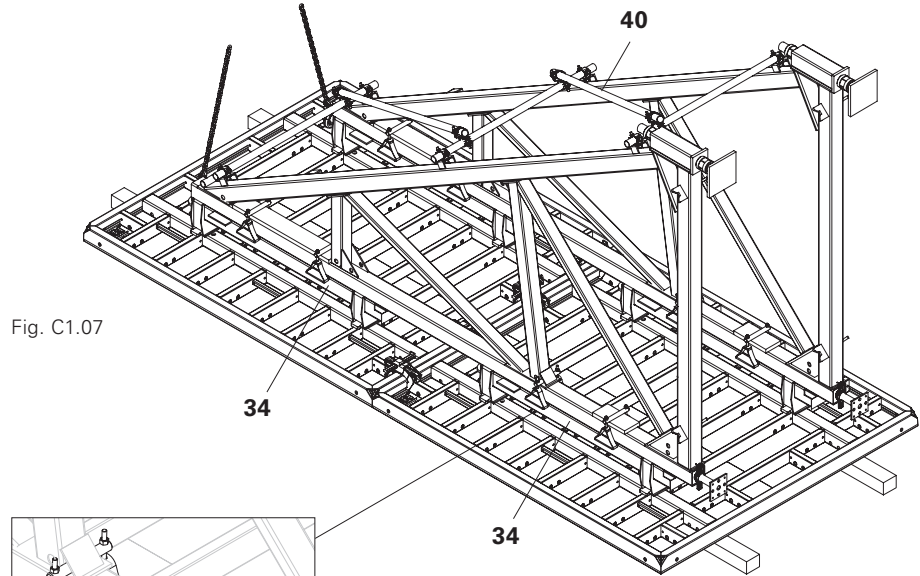

Fig. C1.07
6. Brace the Brace Frames with scaffold tubes (40) (horizontal and vertical). (Fig. C1.07)